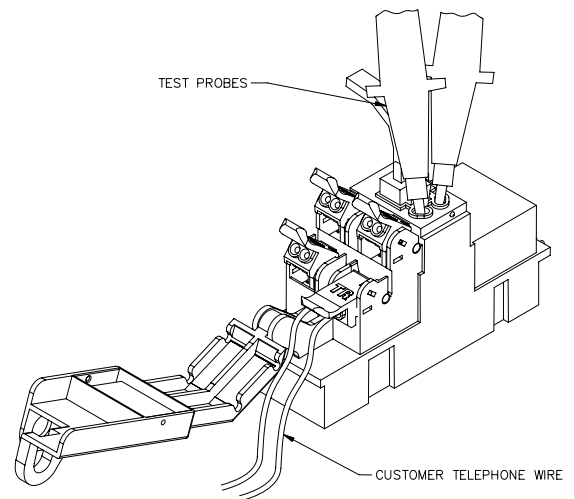

Figure 3
- 5.4 Insert customer telephone wire into rocker wire guides as shown (see Figure 3).
- 5.6 Using an ohmmeter, insert probes into test ports as shown (see Figure 3), and check for continuity.